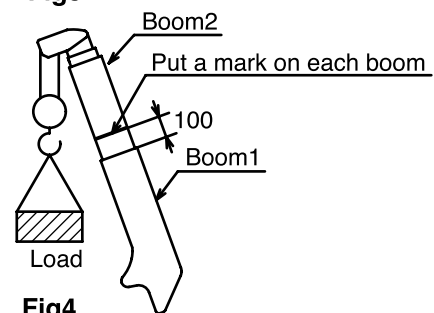

Fig4
(3) Inspection of tele1
- ⑥ Extend booms to a position where it is a little bit shorter than 2-section boom to put a mark on the boom (refer to Fig. 4).
- ⑦ Raise booms to their maximum to sling a load.
- ⑧ In order to release pressure remained in the telescoping system, stop the engine and shift the manual lever for telescoping booms.
- ⑨ Remove the retraction hose.